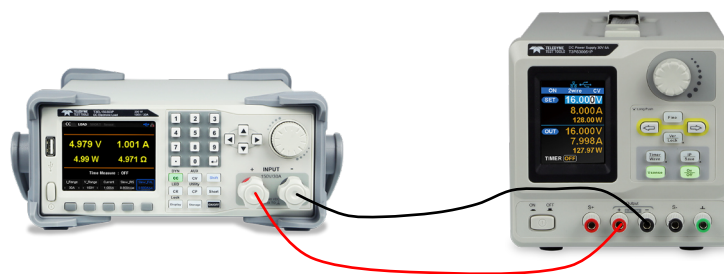

Figure 2-2
1. Turn off the instrument, then as shown in Figure 2-2, connect the DUT and the channel input terminals on the front panel of the load.
1. Turn off the instrument, as shown in Figure 2-2, connect the DUT and the channel input terminals on the front panel of the load.
Power on instruments Connect the DUT and the channel input terminals of the electronic load, as shown in Figure 2-2.